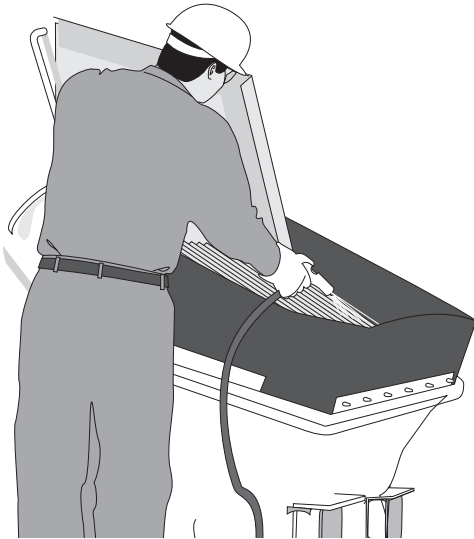

Figure 20
- Spray water into the hopper from above the hopper grate (Figure 20).